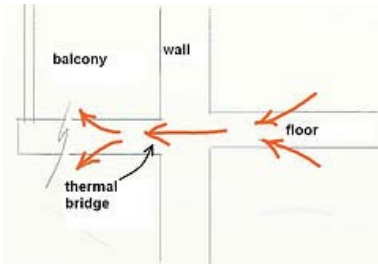

Fig.11 Simple illustration of balcony thermal bridge
- > Balconies (e.g. Figs 11 & 12)